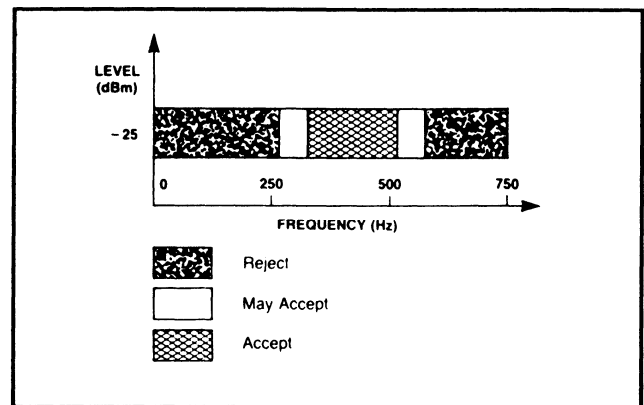

Figure 9 Call Progress Response
A call progress (CP) mode can be selected, allowing the detection of various tones that identify the progress of a telephone call on the network. The call progress tone input and DTMF input are common; however, call progress tones can only be detected when the CP mode has been selected. DTMF signals cannot be detected if the CP mode has been selected (see Table 2). Figure 9 indicates the useful detect bandwidth of the call progress filter. Frequencies presented to the input ($IN+$ and $IN-$) that are within the "accept" bandwidth limits of the filter are hard-limited by a high-gain